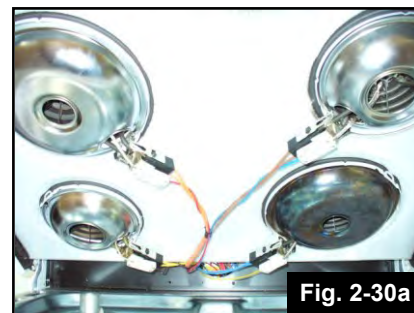
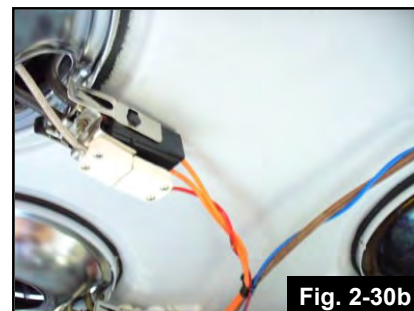

Fig. 2-30a
Fig. 2-30b
2. Securely wrap & twist the thermocouple wires under the cook top around the existing coil element wires at least 2 to 3 times to avoid them contacting the drip pans or the burner box which may cause them to overheat. (Fig 2-30a, Fig 2-30b)